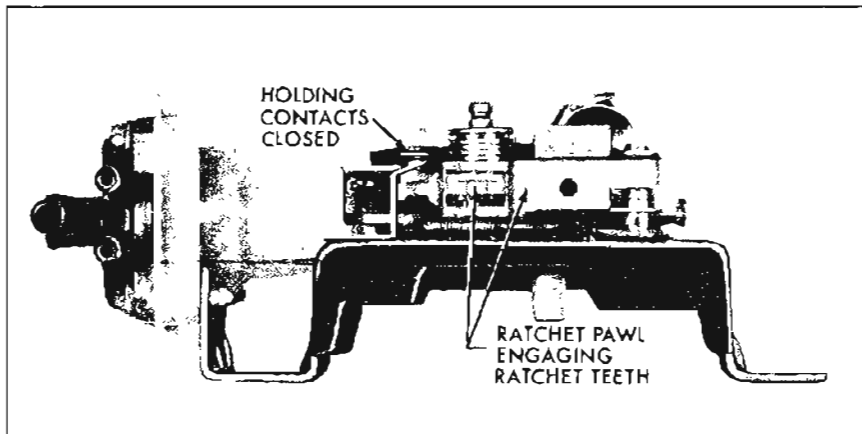

Figure 10-91—Ratchet Pawl Engaging Ratchet Wheel
With the washer relay coil energized, the ratchet pawl, which is normally held away from the ratchet wheel by a spring, is pulled toward the coil pole and engages the ratchet wheel teeth. The ratchet pawl and plate assembly, which moves back and forth continuously when the wiper is on, now starts to rotate the ratchet wheel (Figure 10-91).
2. If relay and ratchet pawl perform correctly in Step 1, manually rotate the 3 lobe cam 1 lobe in a clockwise direction (looking at the cam). Observe if relay holding contacts close (Figure 10-91) and the pump plunger arm is released from its lock-out position.